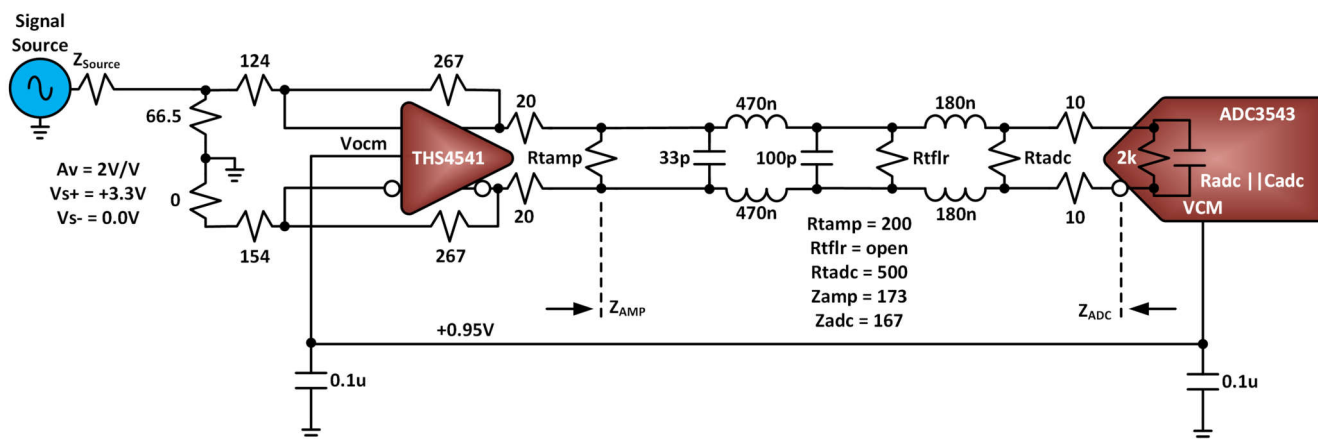

Figure 5-4. Block Diagram Real World DC-Coupled Design Example
5. Build the receiver design in the lab based on Figure 5-4 and start accumulating some test measurements as per all the requirements outlined above in Step 1. In this case, this example uses THS4541 FDA and ADC3543 evaluation module test boards (or EVMs) which typically offer several handy modification options to procure designs such as this. Soldering iron not included.